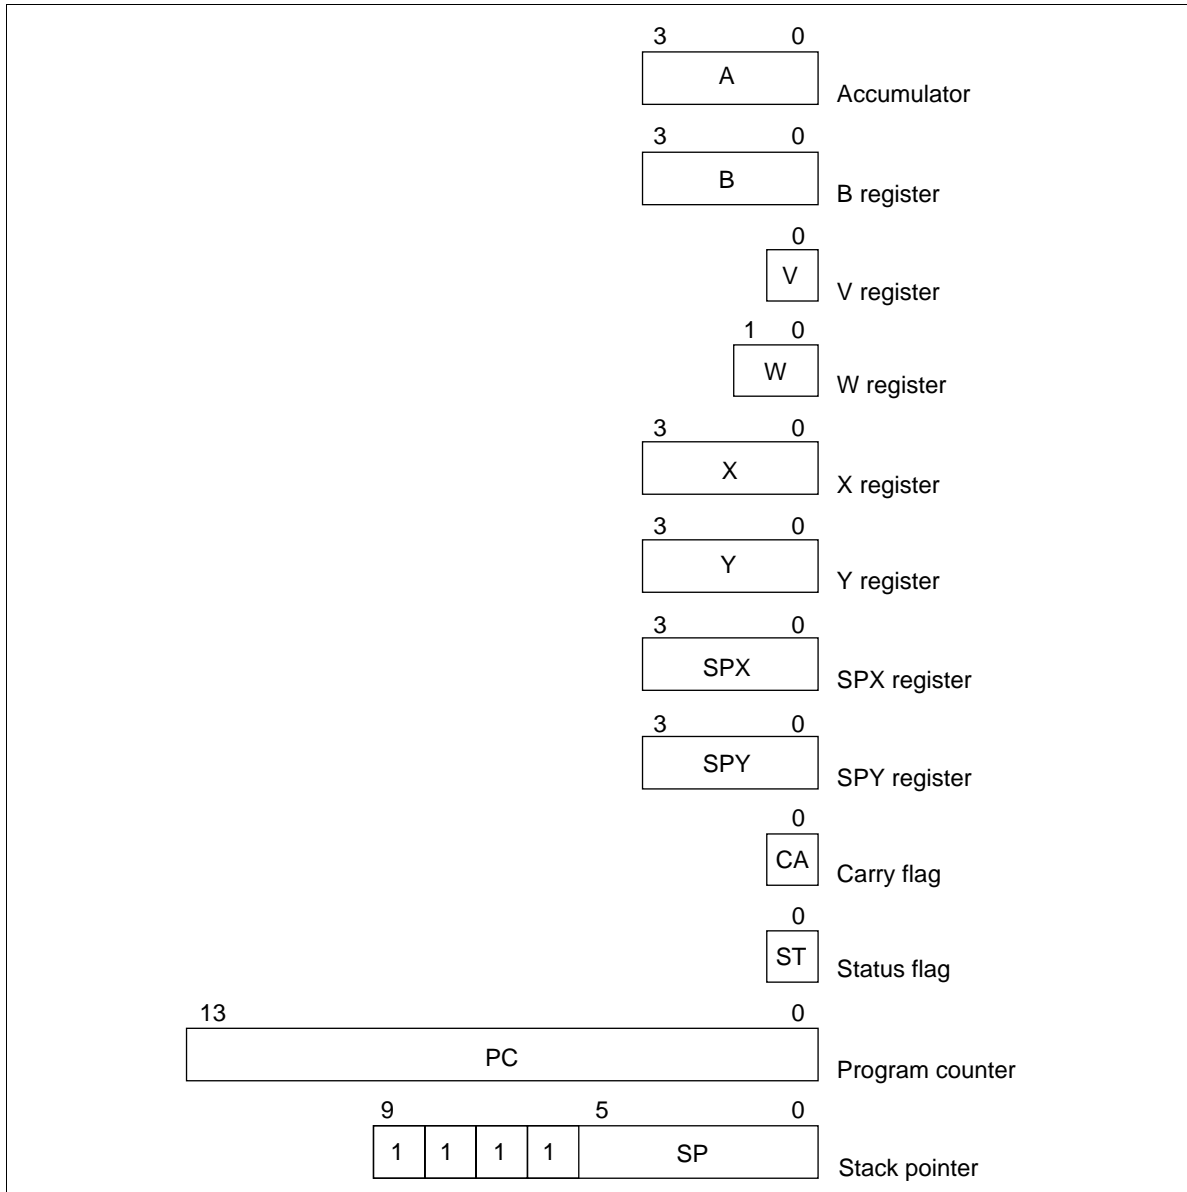

**Figure 5 Configuration of Memory Registers and Stack Area, and Stack Position**
**Data Area (\$040–\$2CF, \$100–\$2CF; Bank 0, 1):** The memory registers (MR), which consist of 16 digits (\$040–\$04F), can be accessed by the LAMR and XMRA instructions (see figure 5). In the 464 digits from \$100–\$2CF, a bank can be selected by the V register (see section on V register).
**Stack Area (\$3C0–\$3FF):** Used for saving the contents of the program counter (PC), status flag (ST), and carry flag (CA) at subroutine call (CAL or CALL instruction) and interrupt processing. This area can be used as a 16-level nesting subroutine stack in which one level requires four digits. The data to be saved and the save conditions are shown in figure 5.